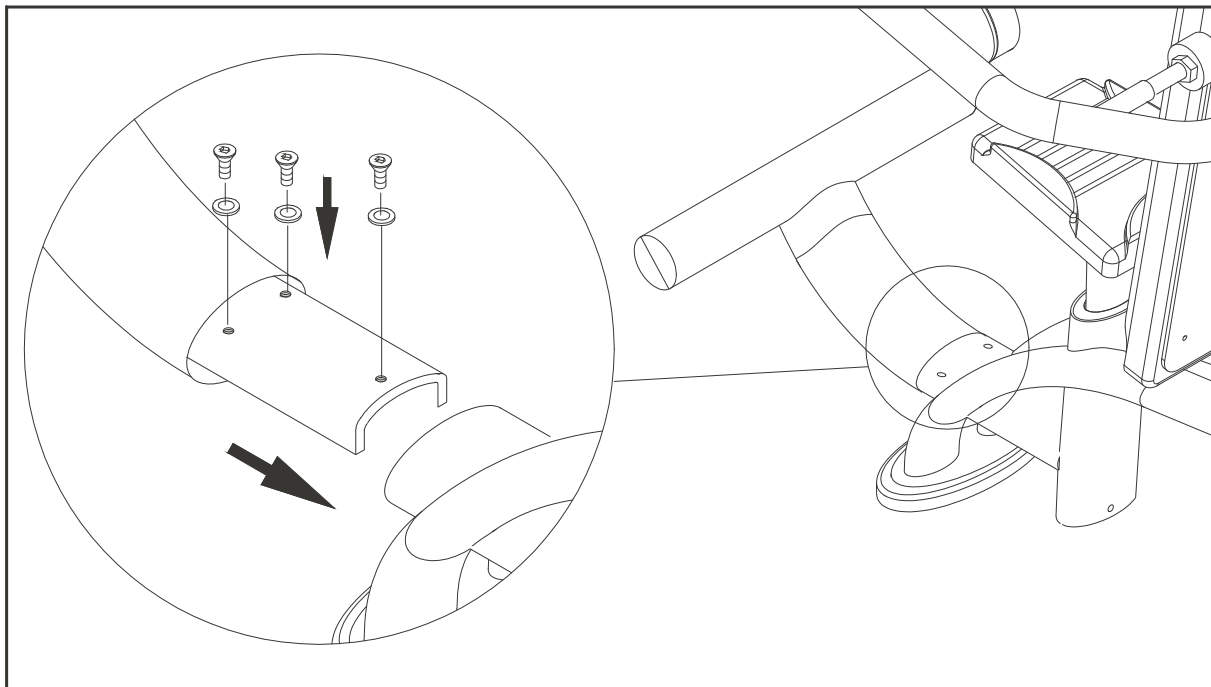

Fig.4
5. Assemble foot rest and seat frame with the screws provided (item 8,9 as listed in parts list). (See Fig.4)